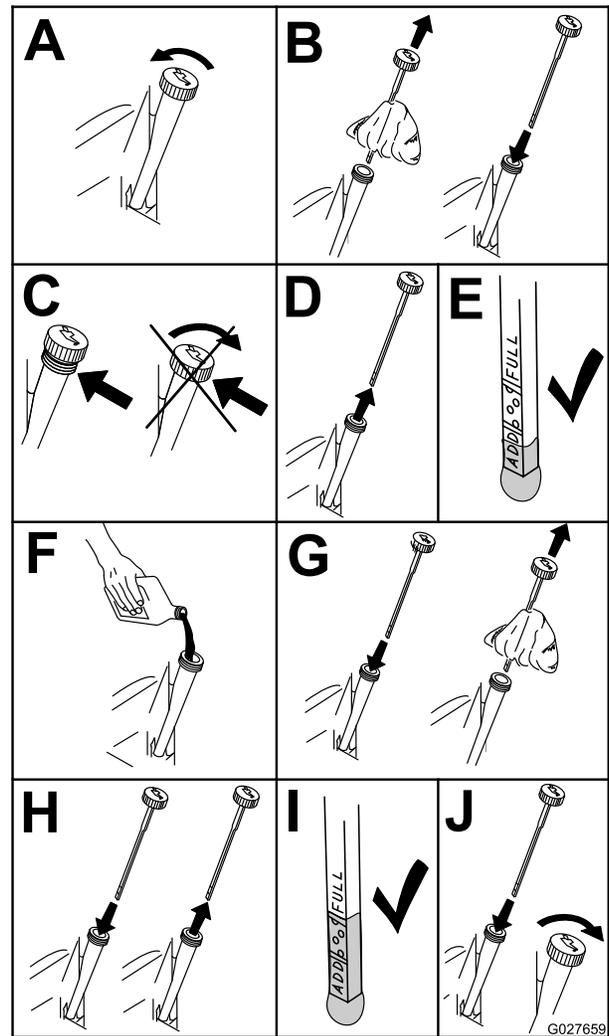

Figure 53
2. Stop the engine, remove the key, and wait for all moving parts to stop before leaving the operating position (Figure 53).